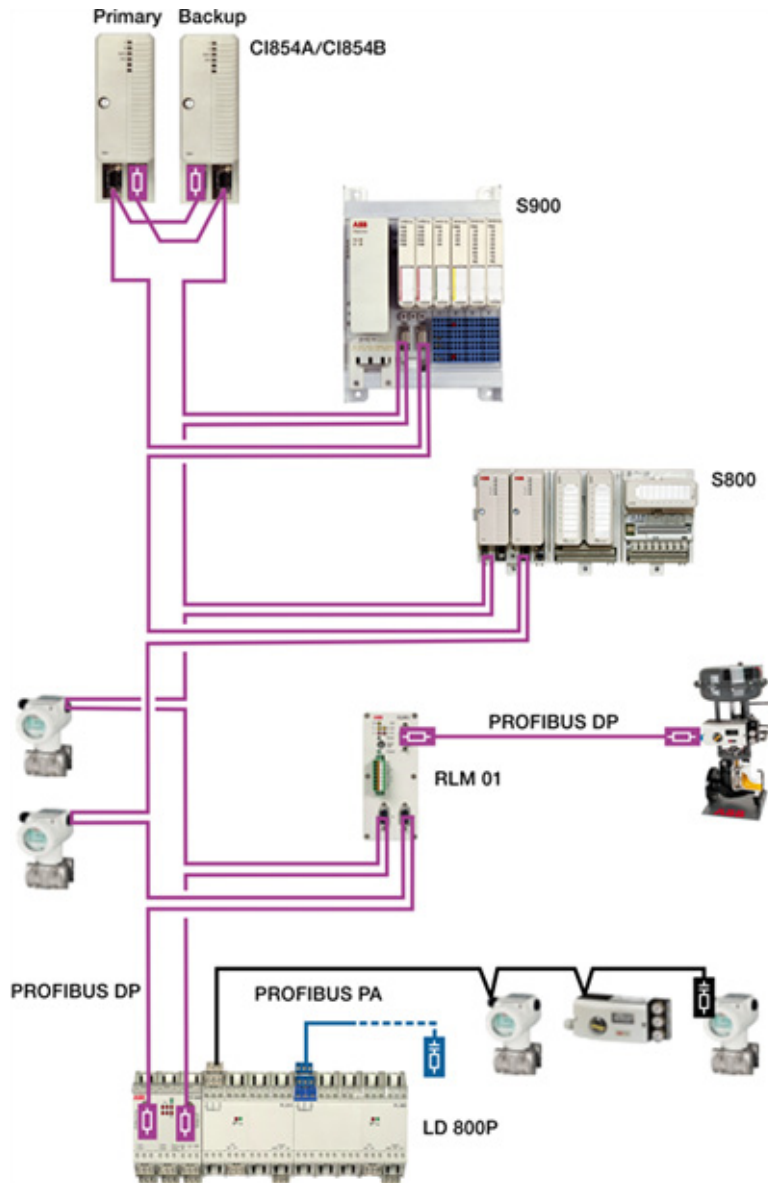

Figure 35. Master, Line and Slave Redundancy
5. If the CI854A is installed in a redundant configuration connect the PROFIBUS DP cable to primary and backup module. Do it like described in Figure 35: Master, Line and Slave Redundancy. Switch the termination ON for the interface on primary or backup module that is at the end of the line.